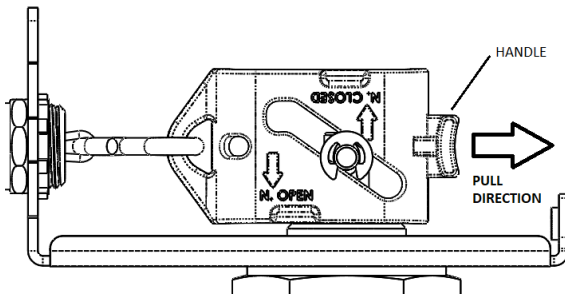

Figure 5 – Valve Closed (N. OPEN Configuration)
3. Reset the valve by pulling the cam latch back, using the handle feature, until the pin clicks into place (See Figures 5 and 6).